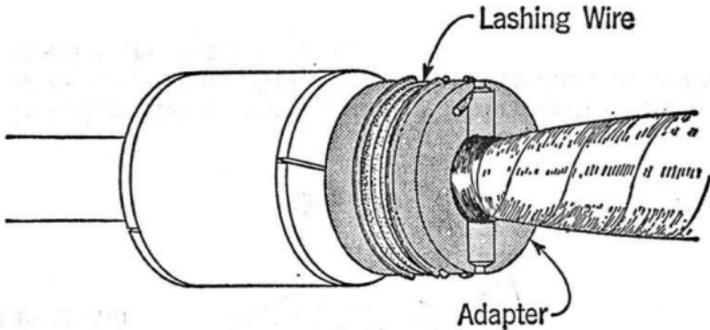

Fig. 17
3.05 If a small size cable is to be installed an adapter of the proper size and type, Section G50.700.5, shall be placed over the inner clamp as outlined in Fig. 17.